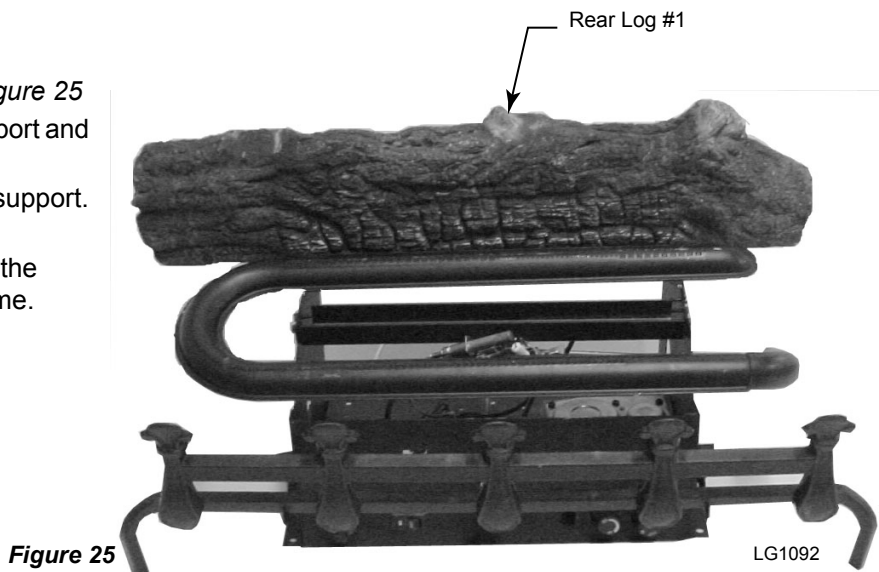

Figure 25
1. Place Rear Log (#1) on rear support. *Figure 25*